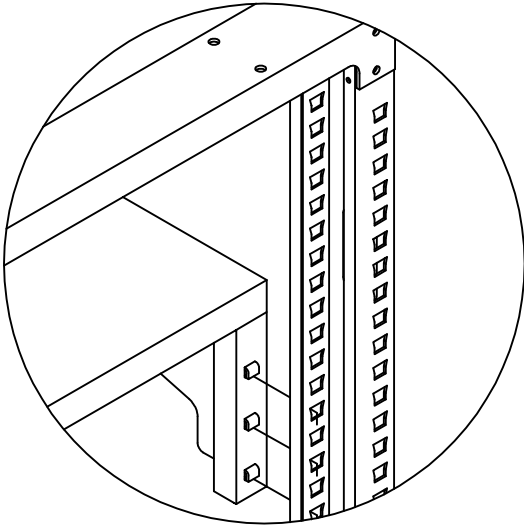
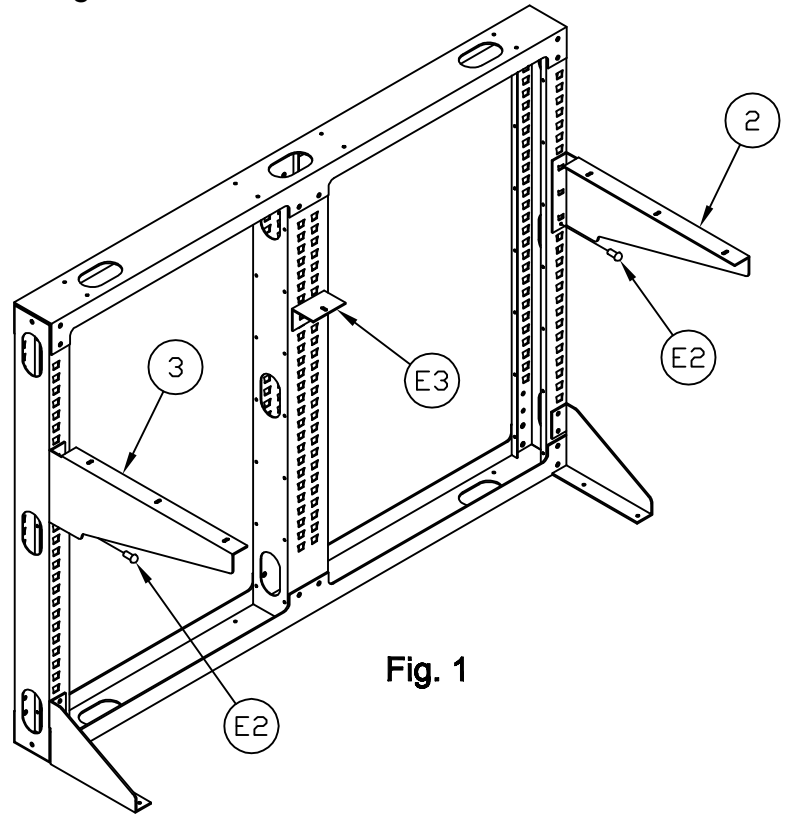

Fig. 1A
Fig. 1
1. Attach Shelf Supports (2, 3, and E3) to Upright at desired height. See Fig. 1. Make sure tabs are properly seated. See Fig 1A
2. Attach Screws (E2) into Shelf Supports. See Fig 1.